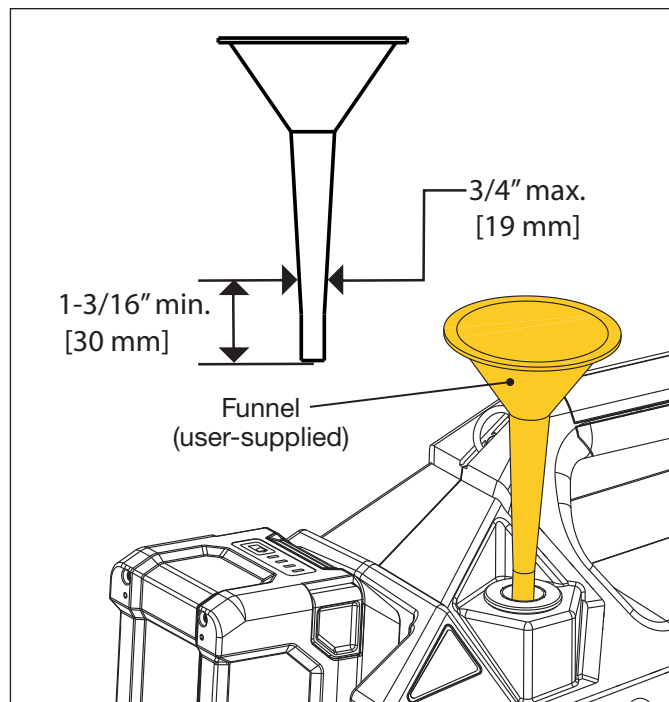

Figure 13: Adding Oil Using Funnel
5. Place a funnel (maximum 3/4" [19 mm] stem outer diameter & at least 1-3/16" [30 mm] long) through the fill opening and into the oil fill tube. See Figure 13.